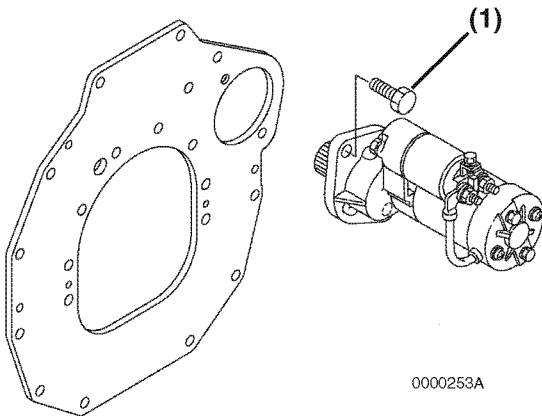

Figure 10-2
3. Remove the two M12 bolts (**Figure 10-2, (1)**) retaining the starter motor to the gear case. Remove the starter motor from the gear case.